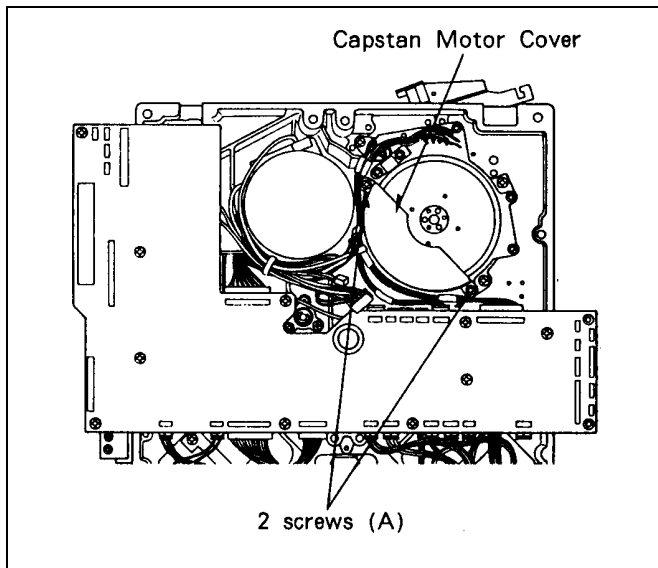

Figure 7-10-1 Capstan Motor Cover Removal
3. Remove 2 screws (A) and remove Capstan Motor Cover as shown in figure 7-10-1.